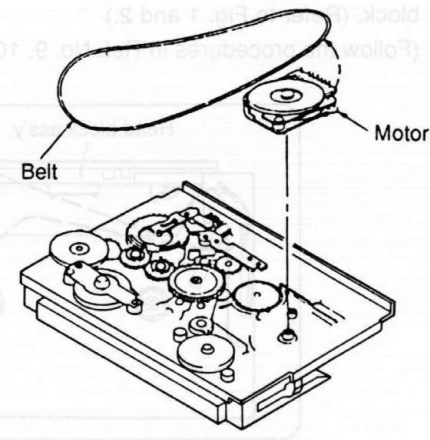

Fig. 3
The head block is supplied as a head block ass'y. (Refer to Fig 3.)
5. Remove the belt from the motor. (Refer to Fig. 3.)